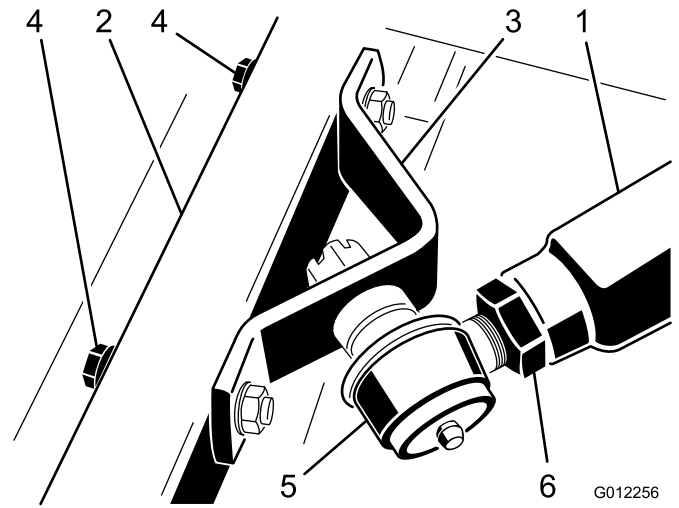

Figure 22
5. Have another person push down on the right push arm while you remove the cap screws, flat washers, and locknuts securing the ball joint mount to the castor arm on the cutting unit (Figure 22). Now the helper can carefully allow the push arm to move upward, which will gradually release the 45 kg (100 lb) of spring load.
3. Have another person carefully push down on the right push arm until the holes in the ball joint mount line up with the holes in the castor arm (Figure 22).